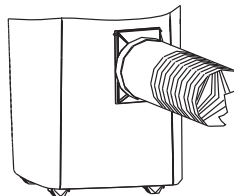

Fig. 10
11. Exhaust air duct & its accessories assembly finished as Fig10 drawing illustrated.